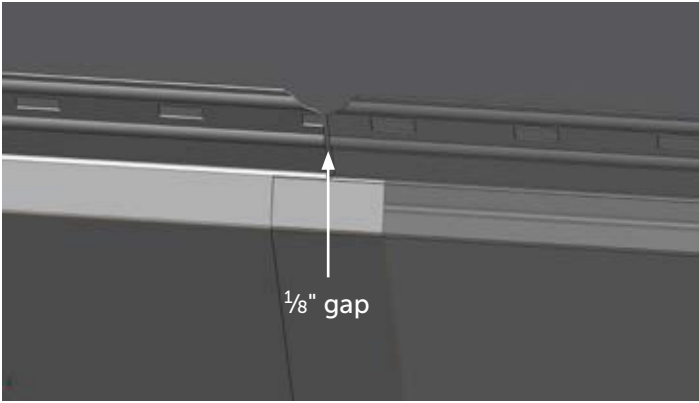

Figure 24.1
**OPTION 1:** Slide the 1/2" tab inside the panel but leave a 1/8" gap by the nailing flange. This option will give you the largest overlap and will close the bottom notch in the siding the most. Always use this option when installing panel on the wall. [FIGURE 24.1]